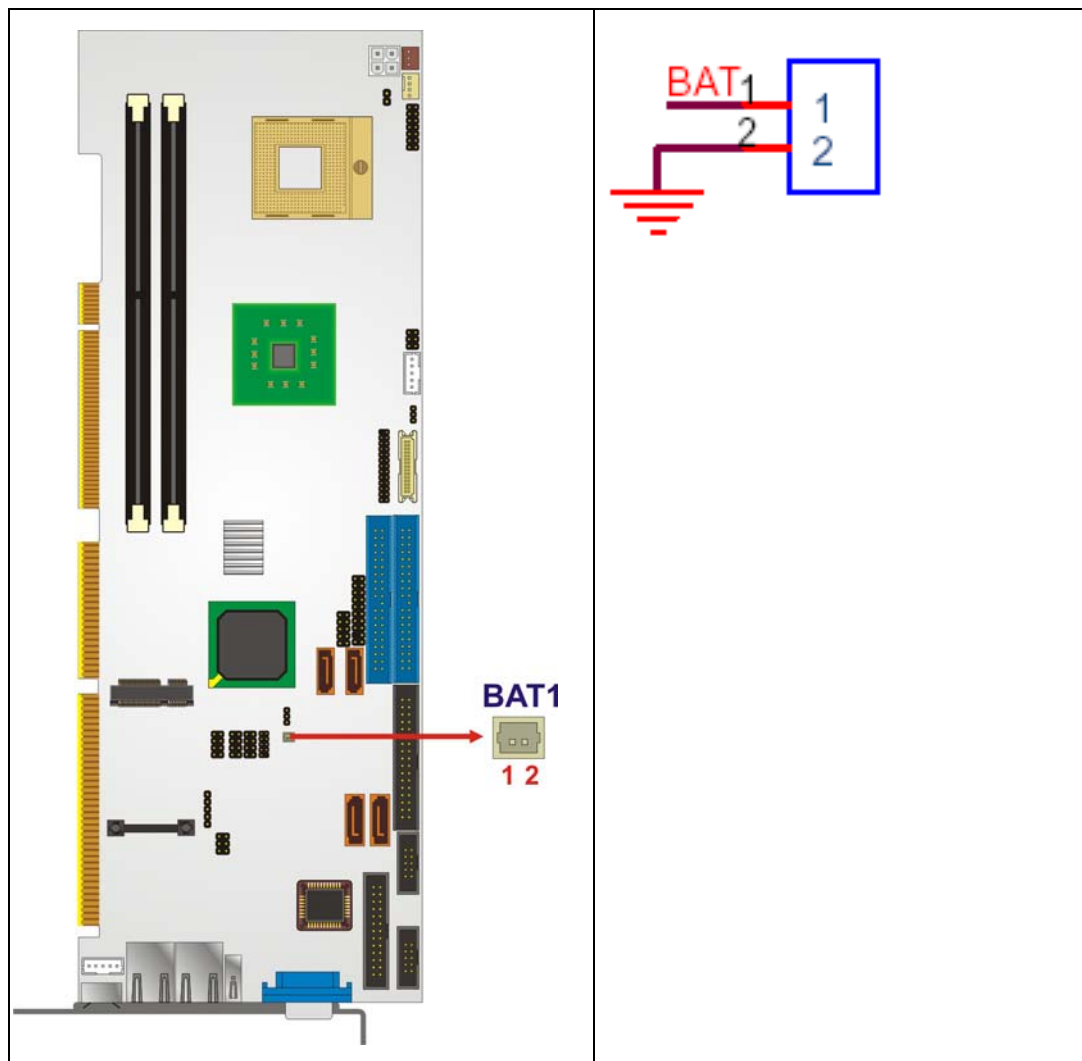

Figure 4-4: Battery Connector Location
- CN Location:** See Figure 4-4